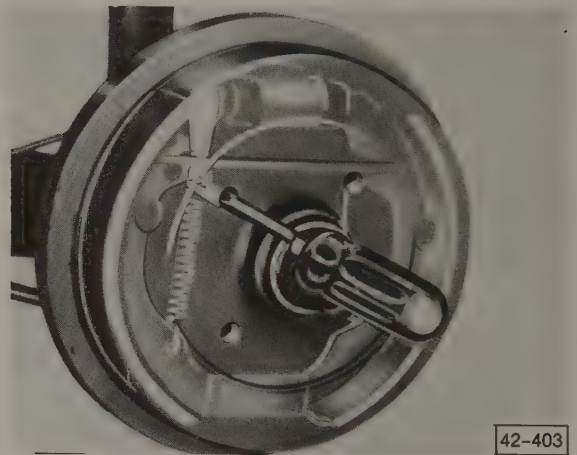

Fig. 6-2. Phantom view of rear drum brake showing adjusting wedge being pushed up with screwdriver to back off adjustment.
2. With the parking brake released, rotate the brake drum until the adjusting wedge can be seen through a wheel bolt hole. Using a screwdriver as shown in Fig. 6-2, push the adjusting wedge up as far as possible.